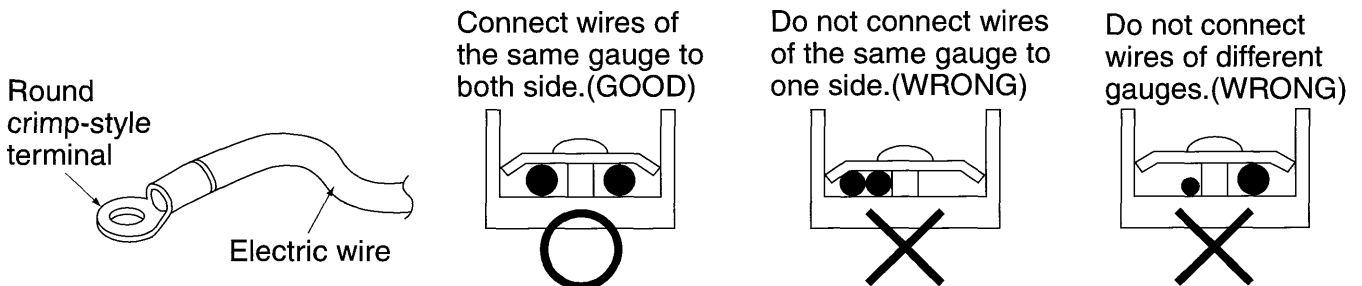

Fig. 32
- When connecting wires of the same gauge, connect them according to Fig. 32.